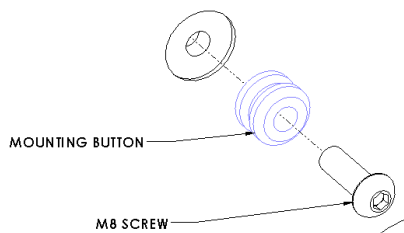
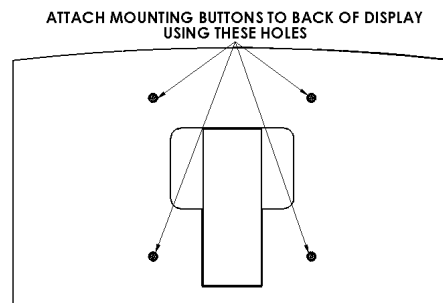

Figure 3
Figure 4
2. Attach mounting buttons to display using four M8 screws provided (see Figure 3 & Figure 4). Determine whether to use M8 x 25mm or M8 x 35mm screws based on depth of holes.